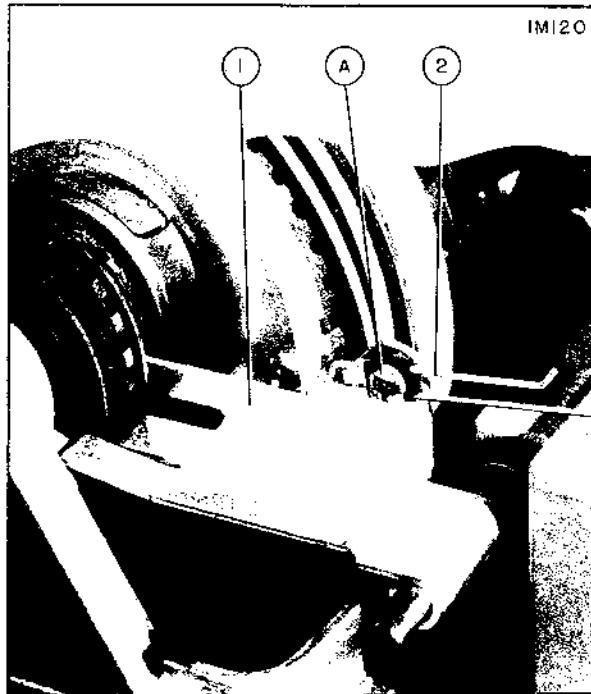

Figure 47
3. Loosen screw **A** on reel brake **1** and remove wire link **2**. (Figure 47).